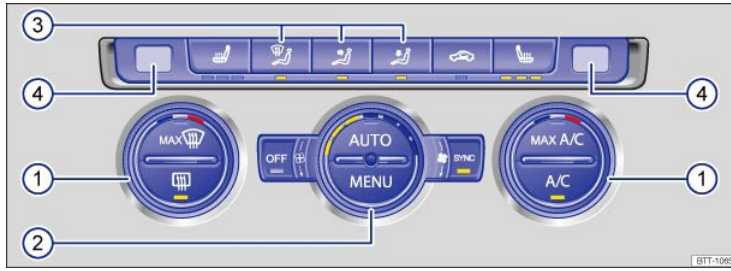

Fig. 192 In the center console: Climatronic controls.
Button/Knob	More information: Climatronic ➔ Fig. 192.
Air distribution ③	Press the buttons ➔ Fig. 192③ to direct air flow in the desired direction. In AUTO mode, air flow is automatically adjusted to a comfortable level.
Button/Knob	More information: Climatronic ⇒ Fig. 192 .
When adjusting fan speed manually, LEDs in the knob ⇒ Fig. 192 light up to indicate the current fan speed. During automatic regulation, the fan speed is not indicated.
- Press the **MENU** ⇒ Fig. 192 button on the Climatronic controls.